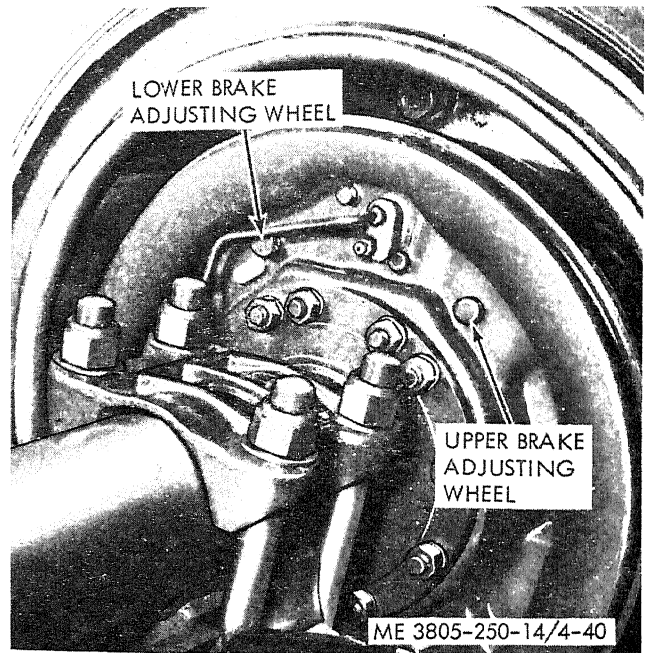

Figure 4-40. Wheel brake adjustment.
- (1) Turn the lower brake adjusting wheel (fig. 4-40) until the lining drags on the drum when the drum is rotated.
- (2) Turn the upper adjusting wheel until the lining drags on the drum.
- (3) Alternately turn each adjusting wheel until the drum cannot be rotated.
- (4) Back off the adjusting wheels alternately until the lining no longer drags on the drum.
- (5) Bleed the brake hydraulic system (subpara c) to remove any air.
- (6) Check the brake adjustment and repeat steps (1) through (4) as necessary.
- (7) Adjust the opposite brake.